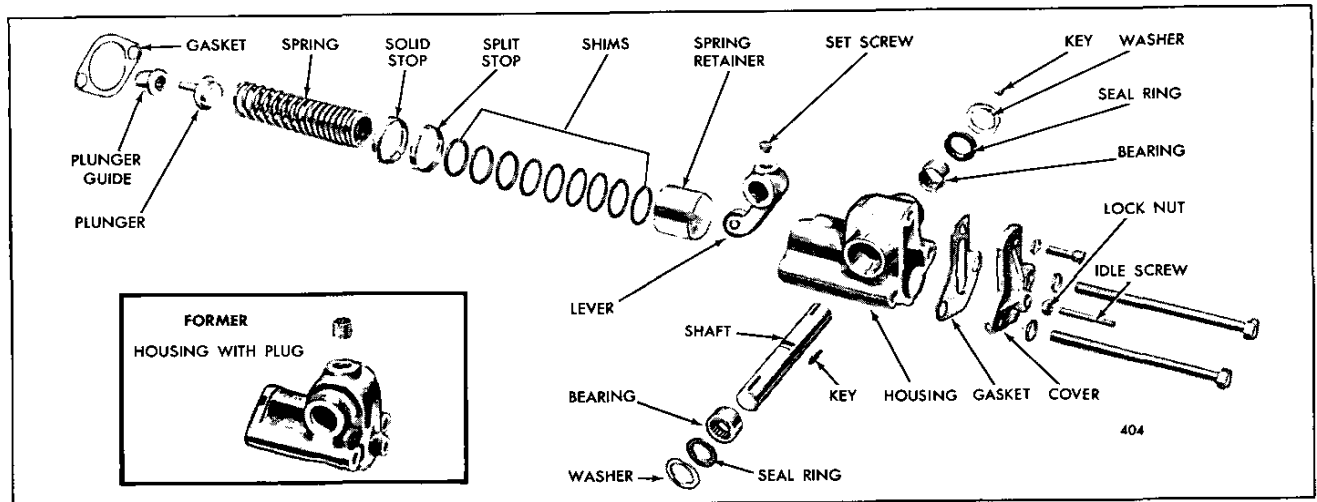

Fig. 3 - Variable Speed Spring Housing and Relative Location of Parts
3. Remove the plain washer and seal ring. If a booster spring lever is used, a washer and seal ring is used at each end of the shaft (Fig. 3).